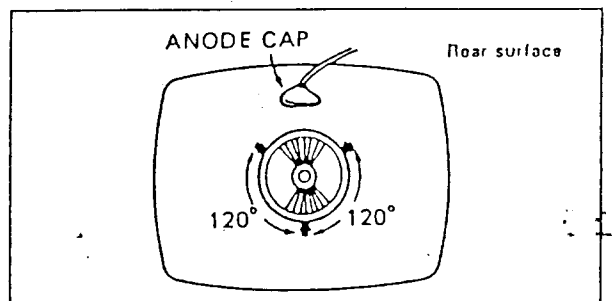

Fig. 6
4. Repeating 2 and 3, fix the position of the deflecting yoke with 3 wedges: so as to produce the best condition for the convergence of points L, R, T and B, on the screen. Removable paper of the double-sided adhesive tape on the wedges should be removed first, and as Fig. 6 shows, inserting the wedges in order of A and B using double-sided adhesive tape after they are firmly inserted into position.